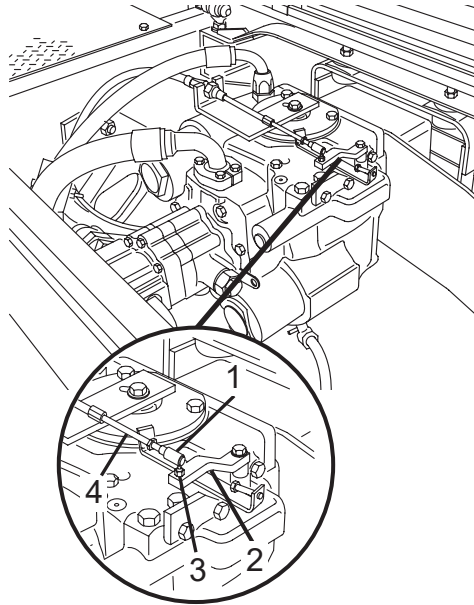

Figure 73
1. Move the pump control lever (Figure 73, Item 2) to engage the drum drive in the CHARGE
3. Once the truck is delivered to the repair shop and properly parked, return the pump control lever to the neutral position, and connect the control cable (Figure 73, Item 4) to the pump control lever (Figure 73, Item 2), by pulling back the head (Figure 73, Item 1) of the cable and installing the cable over the pivot (Figure 73, Item 3). Release the cable head (Figure 73, Item 1).